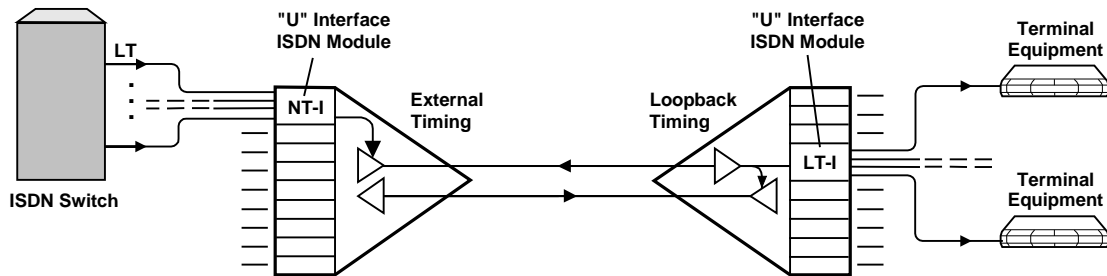

Figure 1-22. Timing Modes for ISDN Channels with "U" Interface
*Figure 1-22* shows the flow of timing signals in a typical application, and the relationship between the two timing modes.